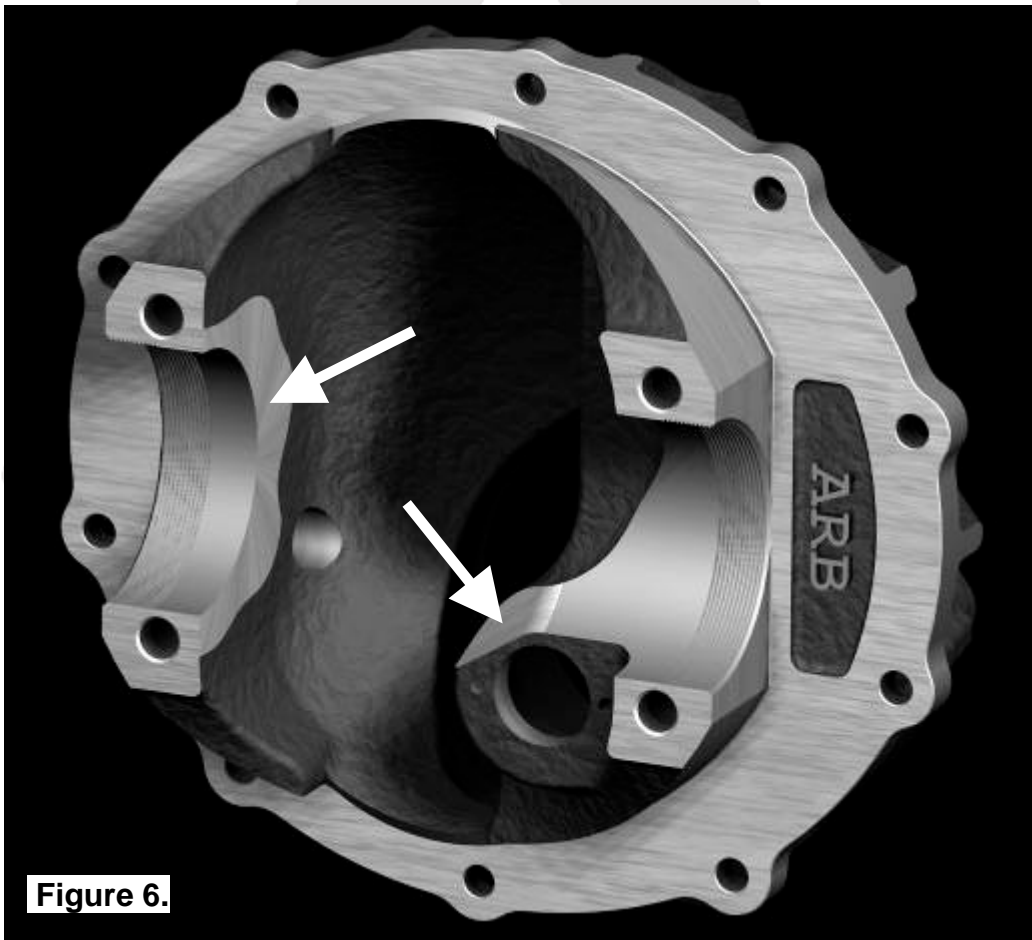

Figure 6.
- ☐ If necessary, remove the pinion shaft assembly and grind or file the third member casting to gain clearance. An example of relief grinding areas are shown in Figure 6.